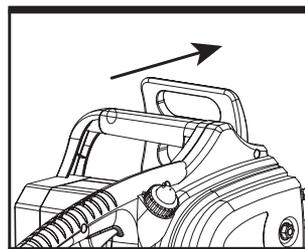

Fig. 17b
- 7). While the motor is running, activate the chain brake level by rolling your left hand forward against the chain brake level; (See Fig. 17b)